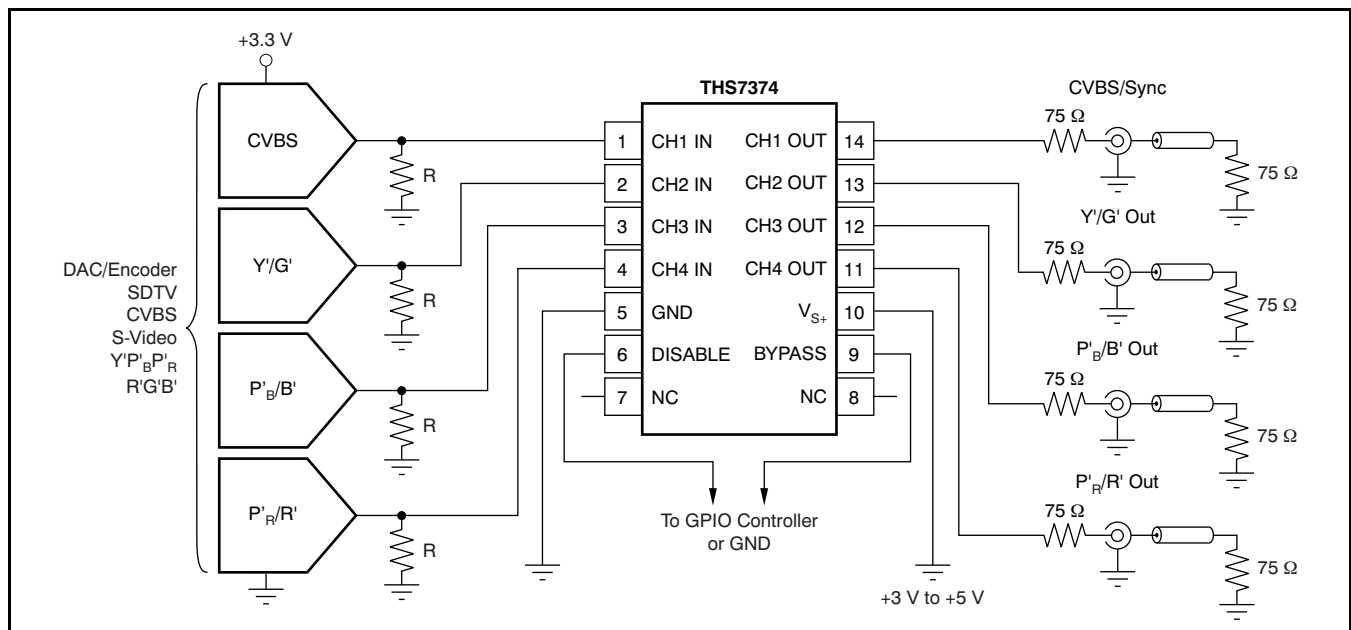

Figure 36. Typical SDTV CVBS/Y'P'B'P'R Inputs from DC-Coupled Encoder/DAC with DC-Coupled Line Driving
A typical application circuit that uses the THS7374 as a video buffer is shown in Figure 36. It shows a DAC or encoder driving the input channels of the THS7374. One channel is a composite video (CVBS) channel of a standard definition (SD) video system. The other channels are the component video $Y'P'_BP'_R$ (sometimes labeled $Y'U'V'$ or incorrectly labeled $Y'C'_B'C'_R$) signals of a 480i or 576i system. These channels could easily be the s-video Y'/C' channels or the R'G'B' channels of a SCART system.